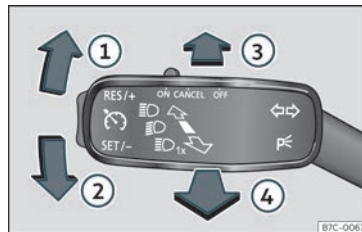

Fig. 94 Turn signal and main beam lever.
- From the base position, press the turn signal and main beam headlights lever forwards >>> **Fig. 94**  When the lamp  is displayed on the instrument panel display, the main beam assist is switched on.
- **OR:** while the main beam is on, pull the turn signal light and main beam headlights lever forwards >>> **Fig. 94** .